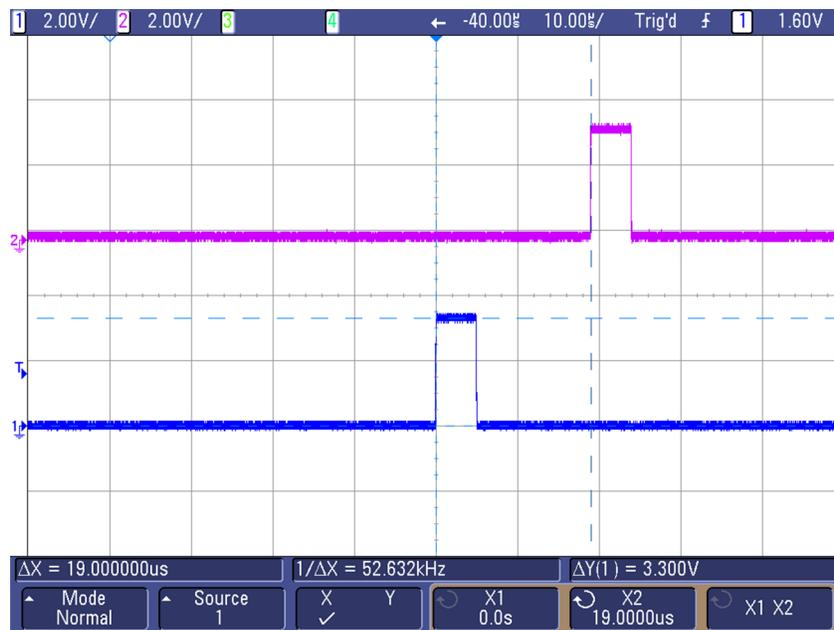

Figure 5. START and STOP Signals Scope Shot
- i. Set channel 1 of the dual function generator to the following (see Figure 5):
- ii. Set channel 2 of the dual function generator to the following (see Figure 5):